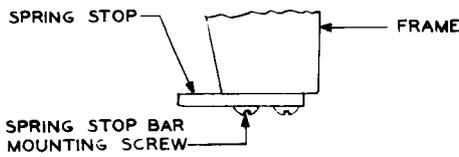
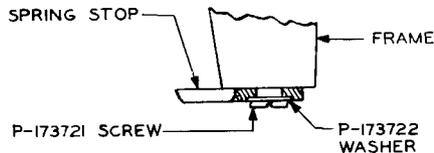

Fig. 7 - Rigid-Type Spring Type
Fig. 8 - Flexible-Type Spring Stop
1. The piece-part numbers of the spring stops shown in this column are those for flexible spring stops which are replacements for both rigid (see Fig. 7) and flexible (see Fig. 8) types. When ordering a replacement for a rigid type, it will be necessary to order, in addition, the P-173721 screw and P-173722 washer (see Fig. 8). When ordering a replacement for a flexible type, it will be necessary to order only the spring stop.
5. The piece-part numbers of the spring stops shown in this column are those for flexible spring stops which are replacements for both rigid (see Fig. 7) and flexible (see Fig. 8) types. When ordering a replacement for a rigid type, it will be necessary to order, in addition, the P-173721 screw and P-173722 washer (see Fig. 8). When ordering a replacement for a flexible type, it will be necessary to order only the spring stop.
3. The piece-part numbers of the spring stops shown in this column are those for flexible spring stops which are replacements for both rigid (see Fig. 7) and flexible (see Fig. 8) types. When ordering a replacement for a rigid type, it will be necessary to order in addition, the P-173721 screw and P-173722 washer (see Fig. 8). When ordering a replacement for a flexible type, it will be necessary to order only the spring stop.